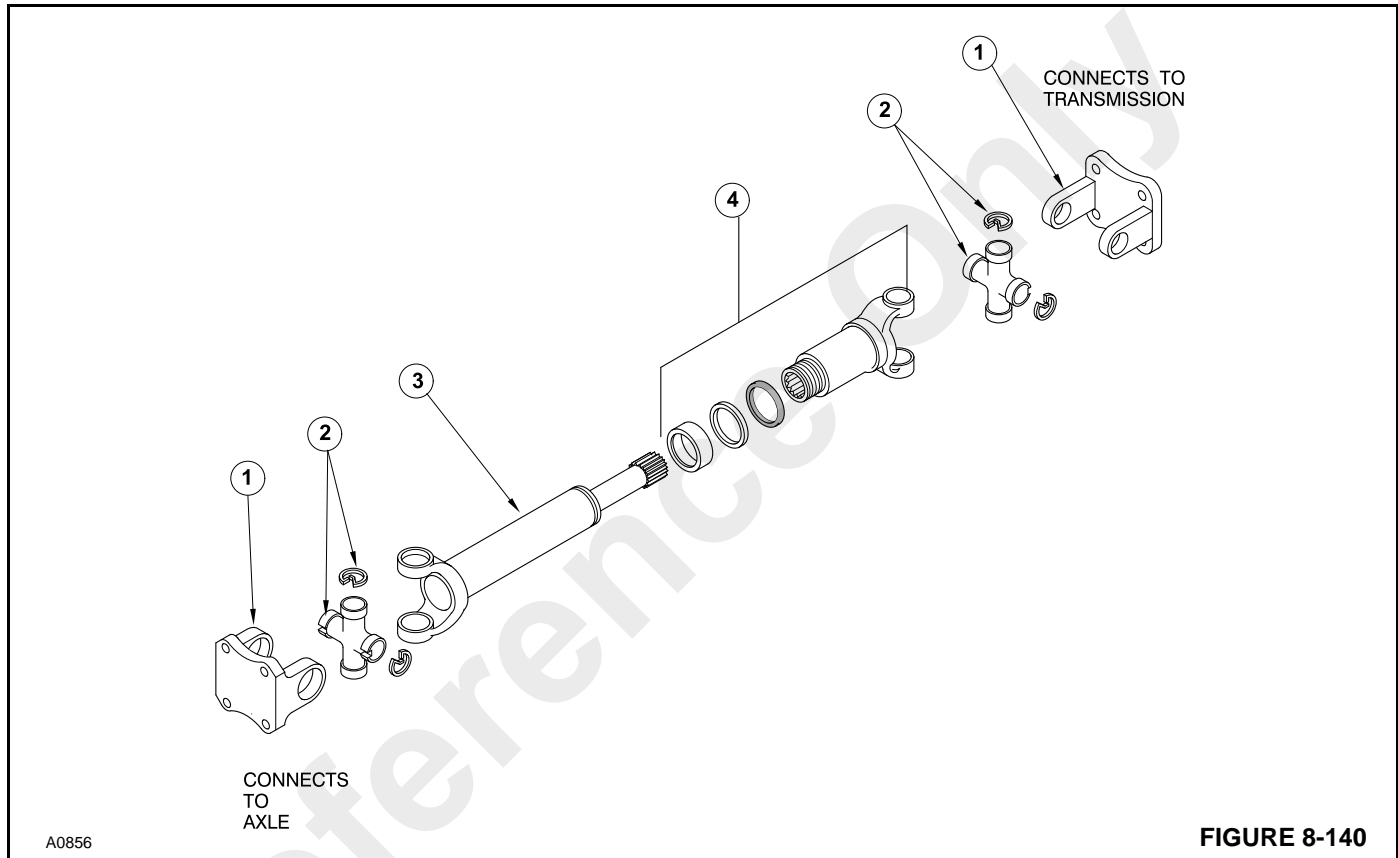

FIGURE 8-140
1. Place a flange yoke (1, Figure 8-140) in a vice. Using pliers, remove the two snap rings from the bearing caps in the flange yoke.
3. Disassemble journal cross (2, Figure 8-140) from the drive shaft using the procedure in step 2. After the snap rings are removed, use a hammer and soft drift, with a flat face slightly smaller than the diameter of the bearing, to remove the bearings.
5. To disassemble the slip tube (3) from the slip yoke (4), unscrew the dust cap and pull the two yokes apart.
2. Install the journal cross into the yoke of slip tube (3, Figure 8-140).
4. Repeat steps 1 through 3 on the opposite end of the drive shaft slip yoke end (4).
5. Repeat steps 1 through 3 and install a flange yoke (1) to each end of the drive shaft.